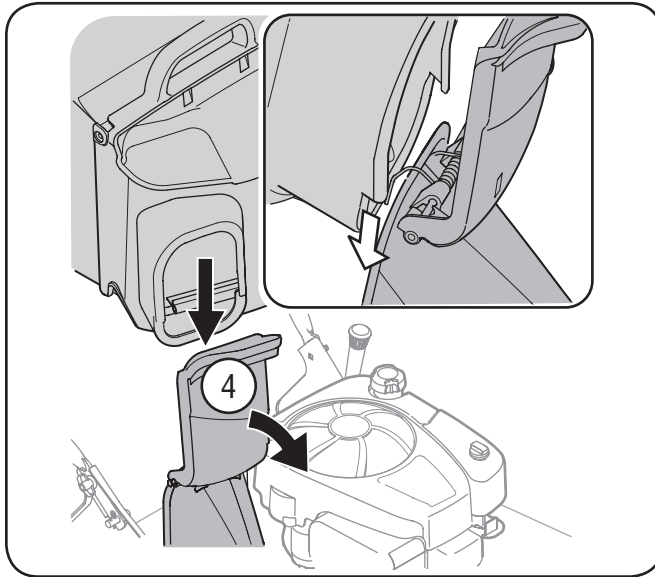

Figure 3-6
4. Lift chute door on the grass bag adapter and slide grass bag onto the adapter. See Figure 3-6.